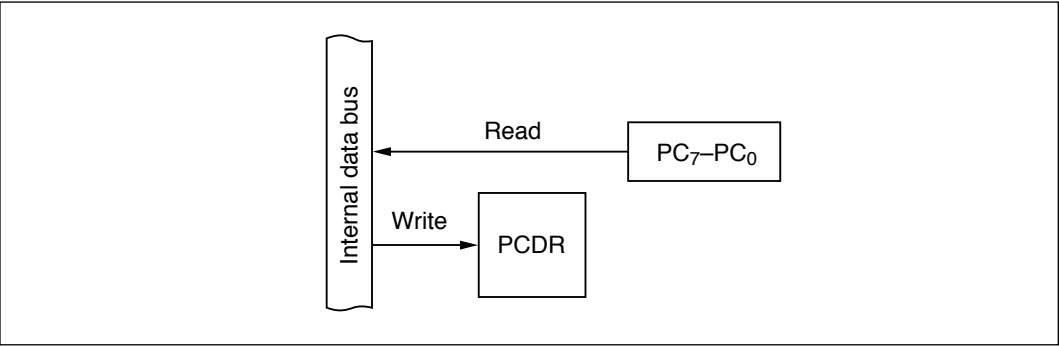

Figure 9-82 Input Port (Modes 2 and 4)
(1) Input Port (All pins: Modes 2 and 4): Figure 9-82 shows a block diagram illustrating the general-purpose input function. Table 9-59 indicates register read/write data. Values written in the port C data register (PCDR) have no effect on general-purpose input lines. When read, PCDR returns the value at the pin.